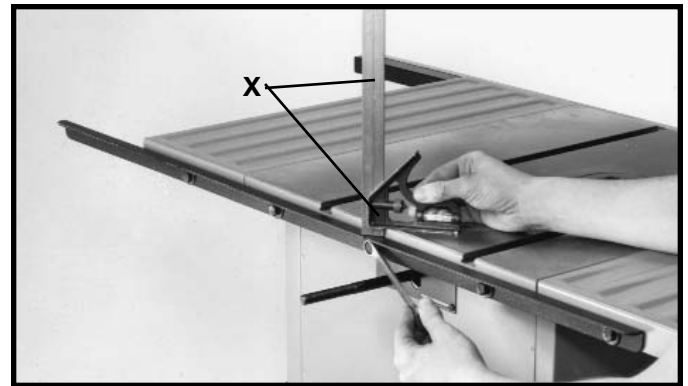

Fig. 19
9. Using a square (X) Fig. 19, or a ruler, adjust rail so that it is 7/16" from top of the table along the entire length. Tighten all mounting hardware.